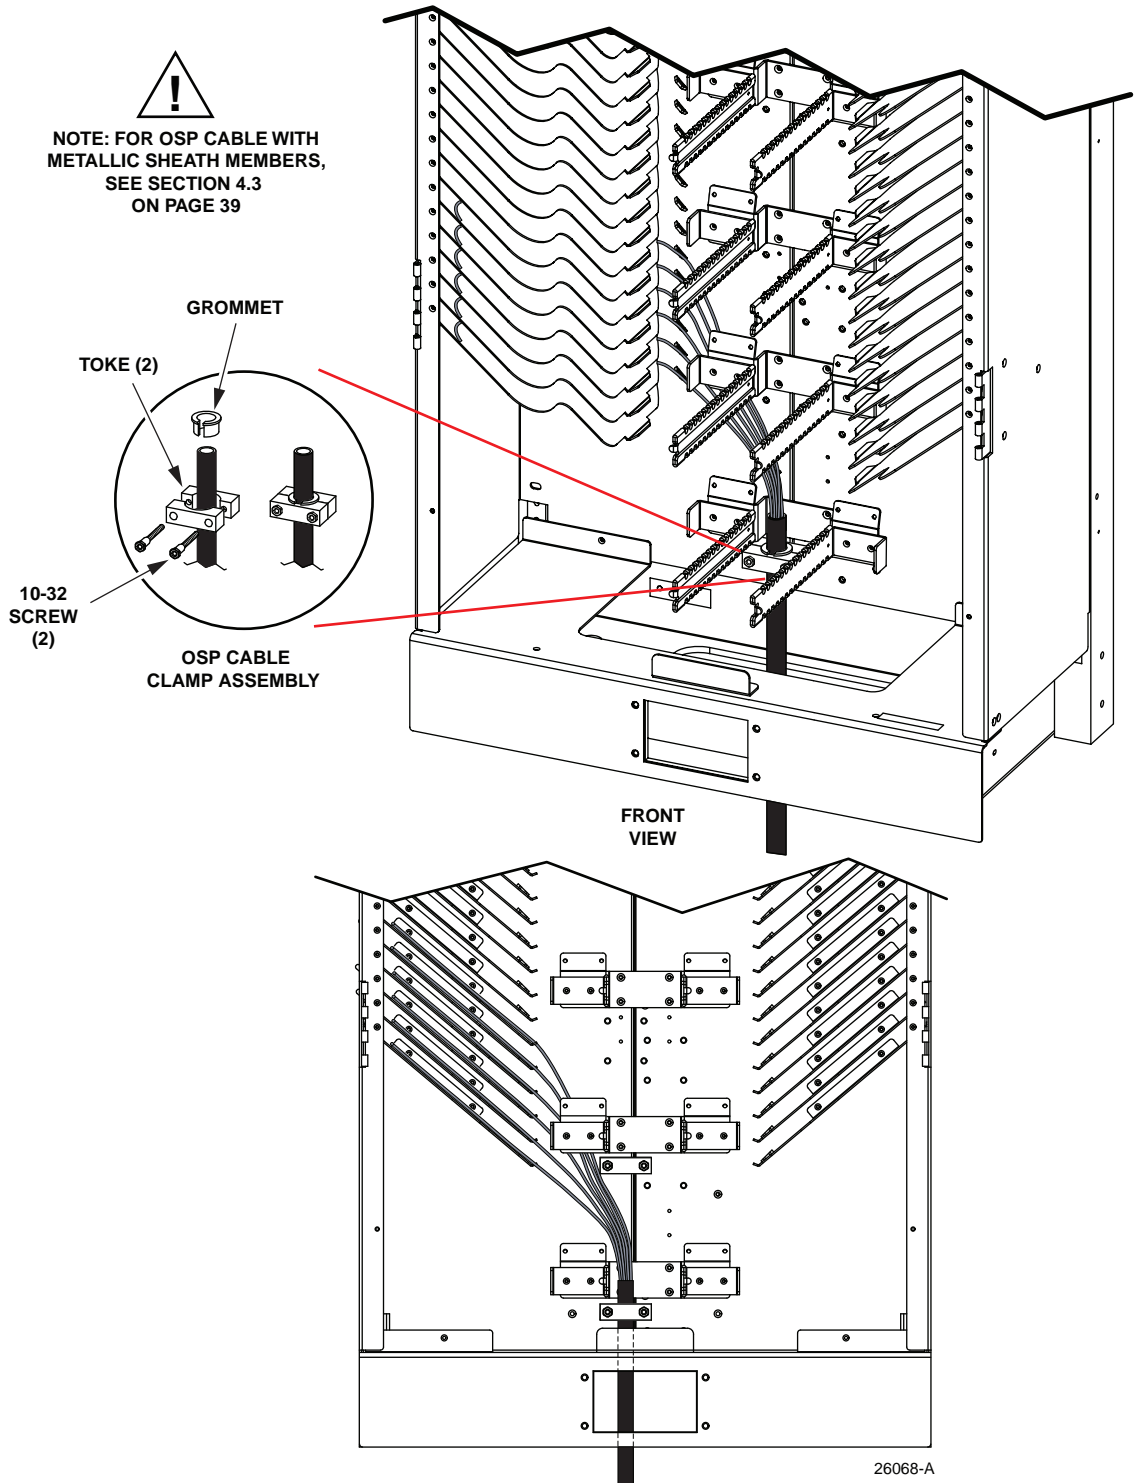

Figure 15. OSP Cable Routing (Raised Floor Cable Environment, 72-Fiber IFC Configuration)
1. Route and secure first OSP cable to the bay as shown in Figure 15.